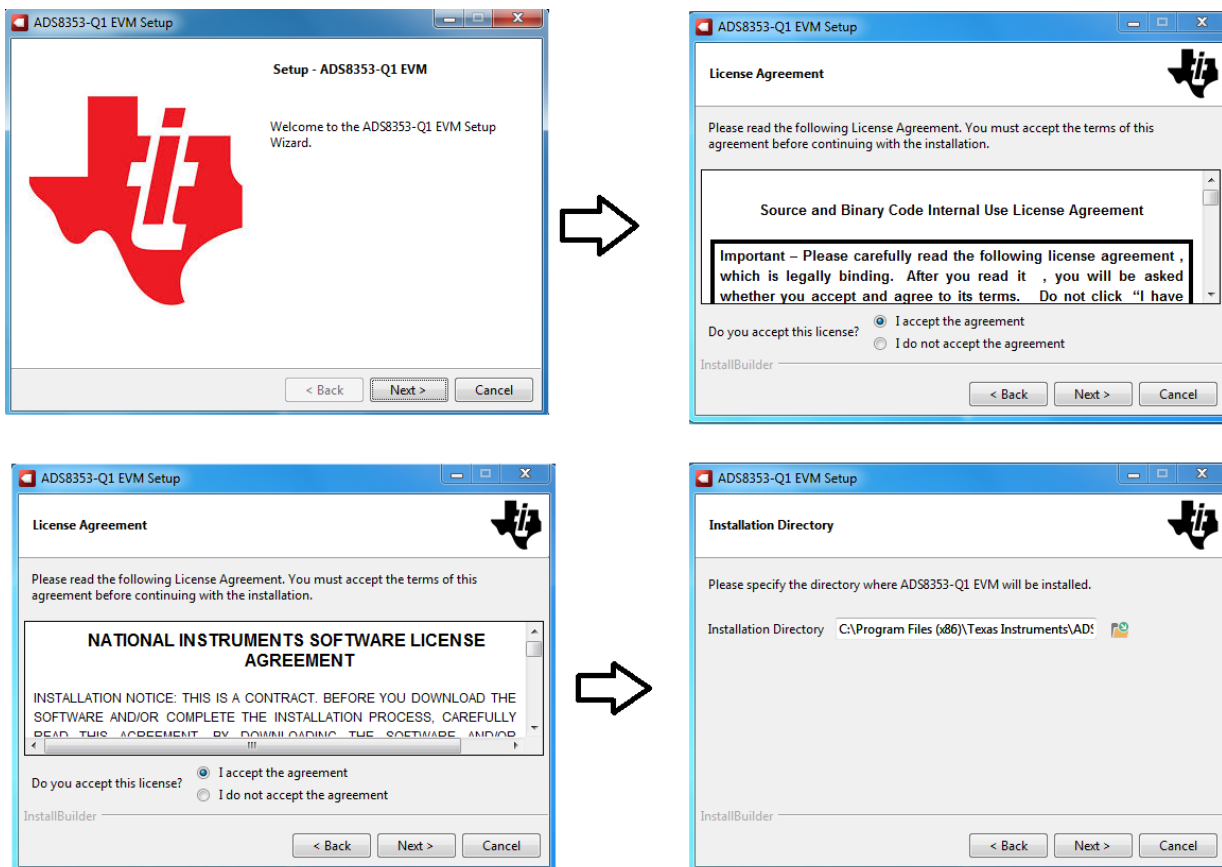

Figure 3. ADS8353-Q1EVM Software Installation Prompts
2. Accept the license agreements (Figure 3) and follow the on-screen instructions to complete the installation.